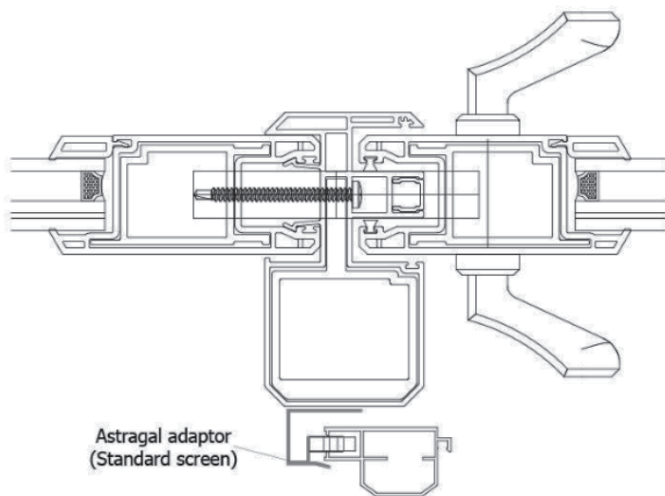

Figure 29a
44. Pre-drill 11/64" (0.171") pilot holes so that the astragal adapter (Item 34) attaches to the astragal base on the glass panel. Use five screws (Item 46) to install the adaptor. Once installed, latch keepers may be installed and adjusted to make proper contact with the latch P-cam. Caulk any seams where the astragal or astragal adapter meets the frame head and sill (Figures 29a and 29b).